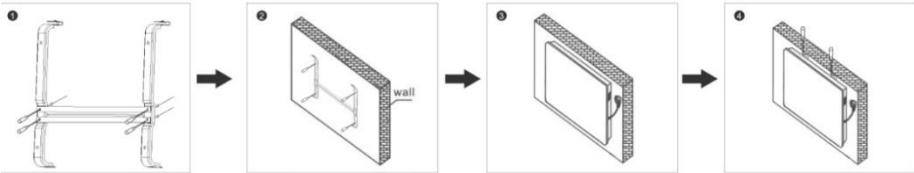

Fig. 2 Wall mounting
3. Mount the bracket to the wall using the supplied wall mount kit. Drill holes of the required diameter according to the fixing marks, insert the dowels, affix the bracket and tighten the screws, thereby securing the bracket to the wall (**Fig. 2, p. 1,2**)
4. Hang the device onto the bracket by aligning the bracket with the holes on the back of the device (**Fig. 2, p. 3**)
5. Tighten the screws on the top of the bracket to fix the convector (**Fig. 2, p. 4**)